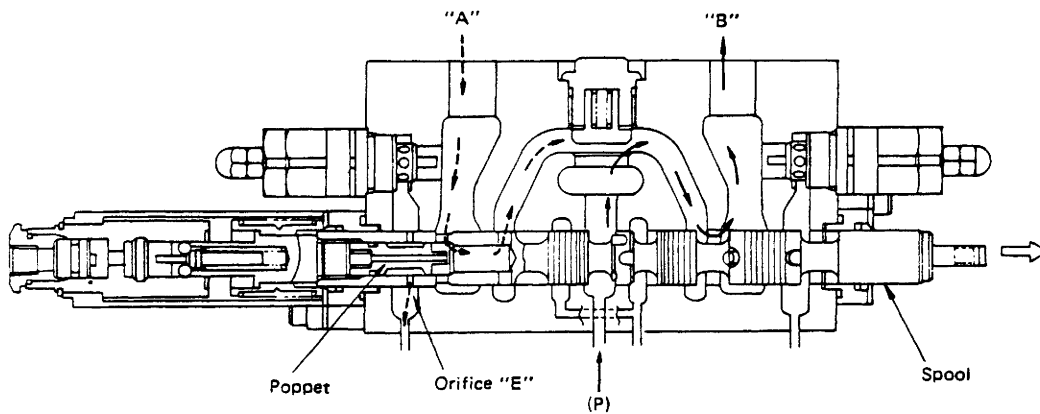

Fig. 3-3
b) Fig. 3-3 shows the spool when it has been shifted out. The oil from the pump port flows into cylinder port "B," and the return oil from cylinder port "A" opens the poppet inside the spool to flow into cylinder "B," and joins the oil from the pump port. The excess oil returns to the tank port through orifice "E."